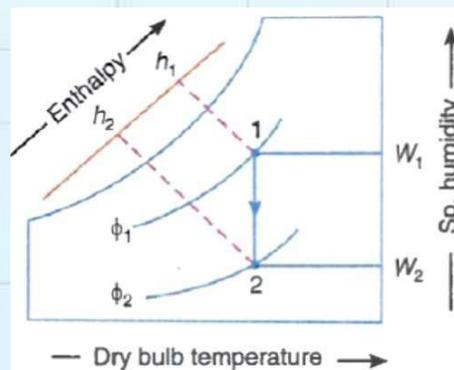

Fig.2.8 – Dehumidification
- ▶ In this process only the latent heat **removed** from the air. (Fig. 2.8)
- ▶ If temperature of water spray is equal to WBT of air (i.e. $t_1 = t_{w1}$); then net heat transfer will be *zero*; because sensible heat transfer from *air to water* will be equal to latent heat transfers from water to air. (*process 1-3 in Fig. 2.8*)